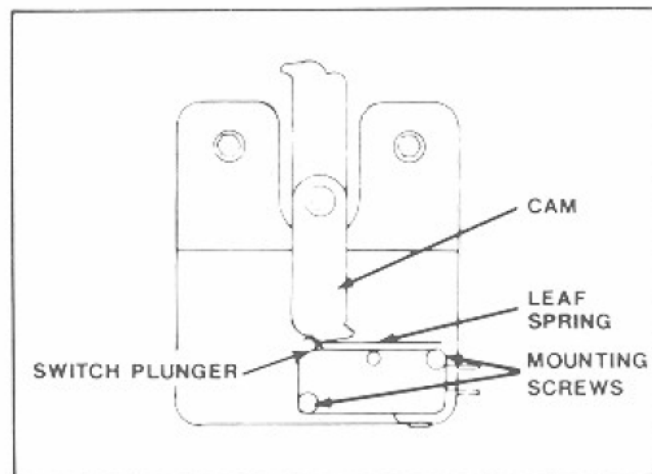

Figure 6-12. Cam Switch Adjustment
1. Check that the leaf spring is resting in the cam lobes and that the switch plunger just touches the bottom of the leaf spring as shown in *figure 6-12*.
2. To adjust the switches, loosen mounting screw under plunger end and move the switch housing as described in the previous step (see *figure 6-12*).